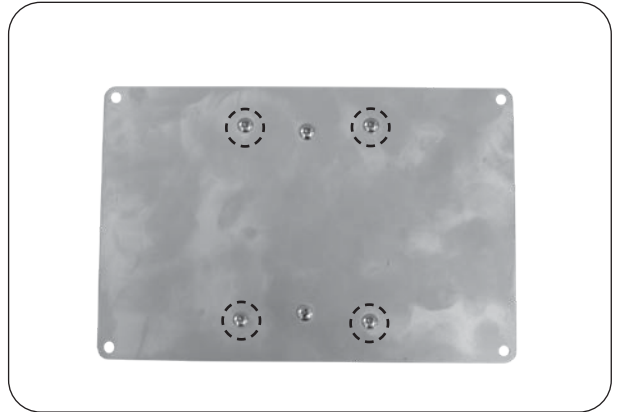

Fig. 42-3 Remove 4 small screws
4. Remove the 4 small screws found on the cover of the power supply box (see Fig. 42-3).